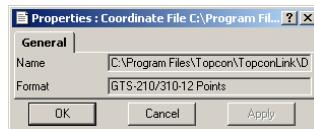

Figure 4-51. Properties for Coordinate File
- Coordinate files – displays the path to the opened file and the file format (Figure 4-51).